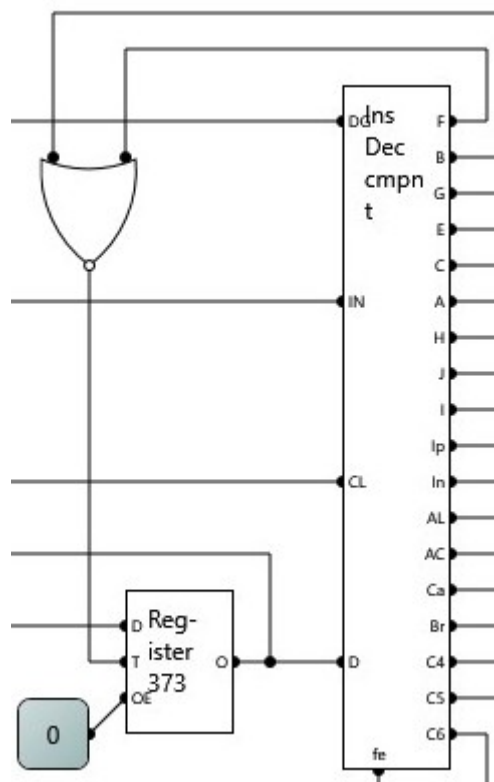

Figure 9 Instruction Register input/output
In the figure the Accumulator, Program Counter, ALU and Instruction Register contain further circuitry described in the following. The Address Register and Address Bus Register are commercial eight-bit latches (74373). The logic in the figure between the registers is all controlled by the output of the Instruction Register (IR). A detail view of the IR input/output is shown in Figure 9.